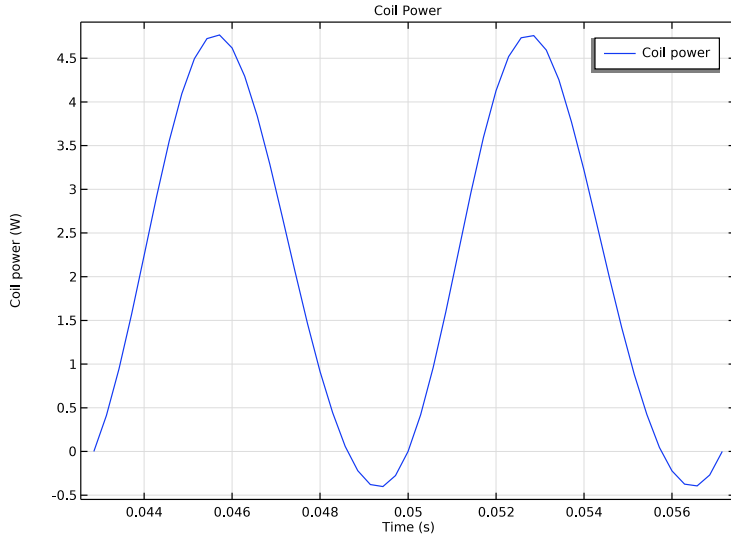
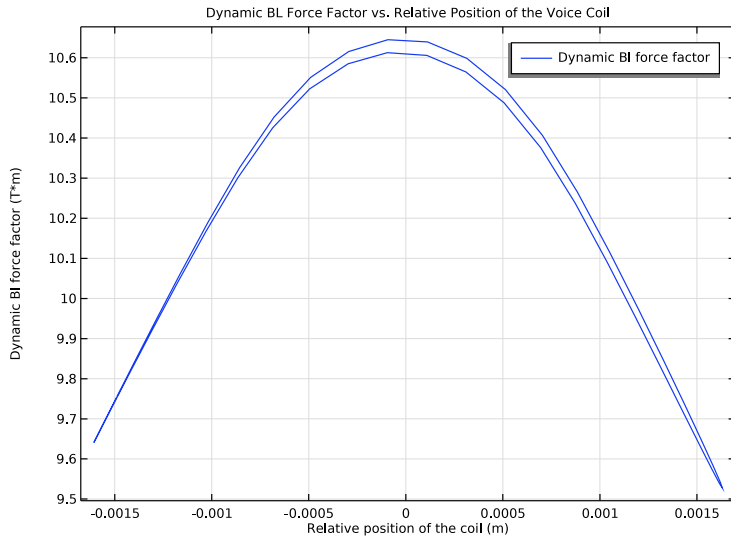

Figure 10: Coil power at the steady state.
Figure 11: Dynamic BL force factor versus relative position of the voice coil.
The plots of the coil power and the dynamic force factor (BL) are depicted in Figure 10 and Figure 11. You can see that the coil power is negative over certain time intervals. This means that the power flows from the voice coil into the circuit, that is, the voice coil operates in the generator mode. The RMS value of the power is of course positive.